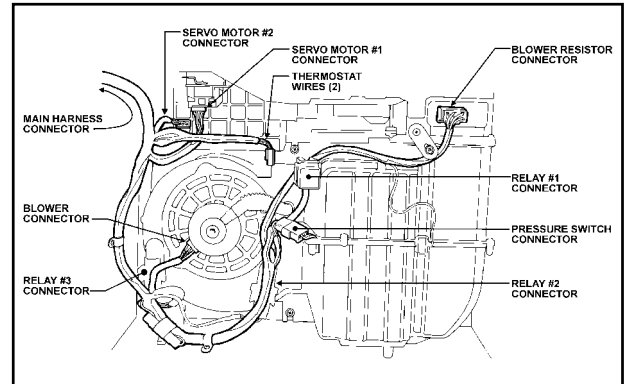

Figure 60: Harness Connections
- 7) Install nine (9) screws.
- 8) Install two (2) clips.
- 10) Reconnect wire harness. (Fig. 60)
- 1) Install blower/cooling unit with six (6) screws.
- 3) Reconnect wire harness. (Fig. 60)